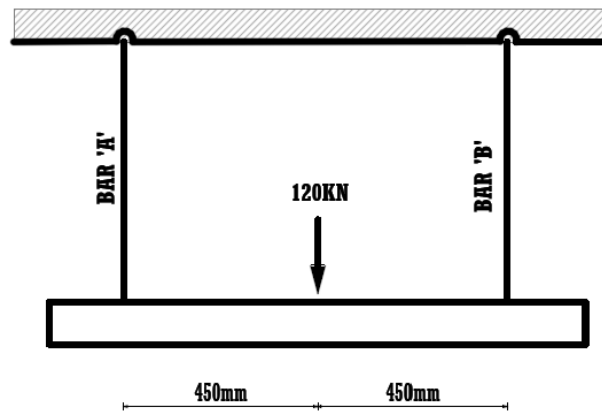

Fig 3
- Shown in fig 3 are two rods A and B supporting a rigid beam. The diameter of bar A is 40mm. Given that the wires are of the same length and that the rigid beam remains horizontal both before and after the application of the 120kN load. Calculate: